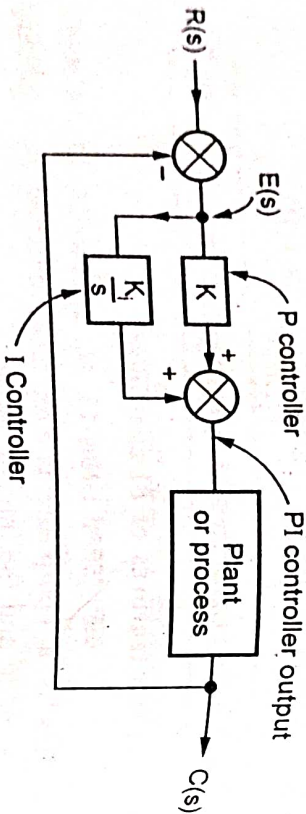

Fig. Q.6.1 PI controller
• The Fig. Q.6.1 shows the block diagram of PI controller.